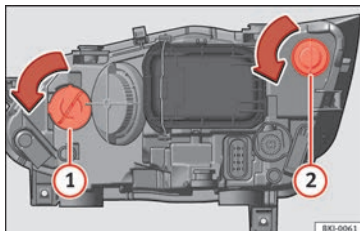

Fig. 113 In the engine compartment: turn signal light bulb ① and DRL (daytime running light) bulb ②.
- Turn the bulb holder »» Fig. 113 ① or ② to the left and pull.